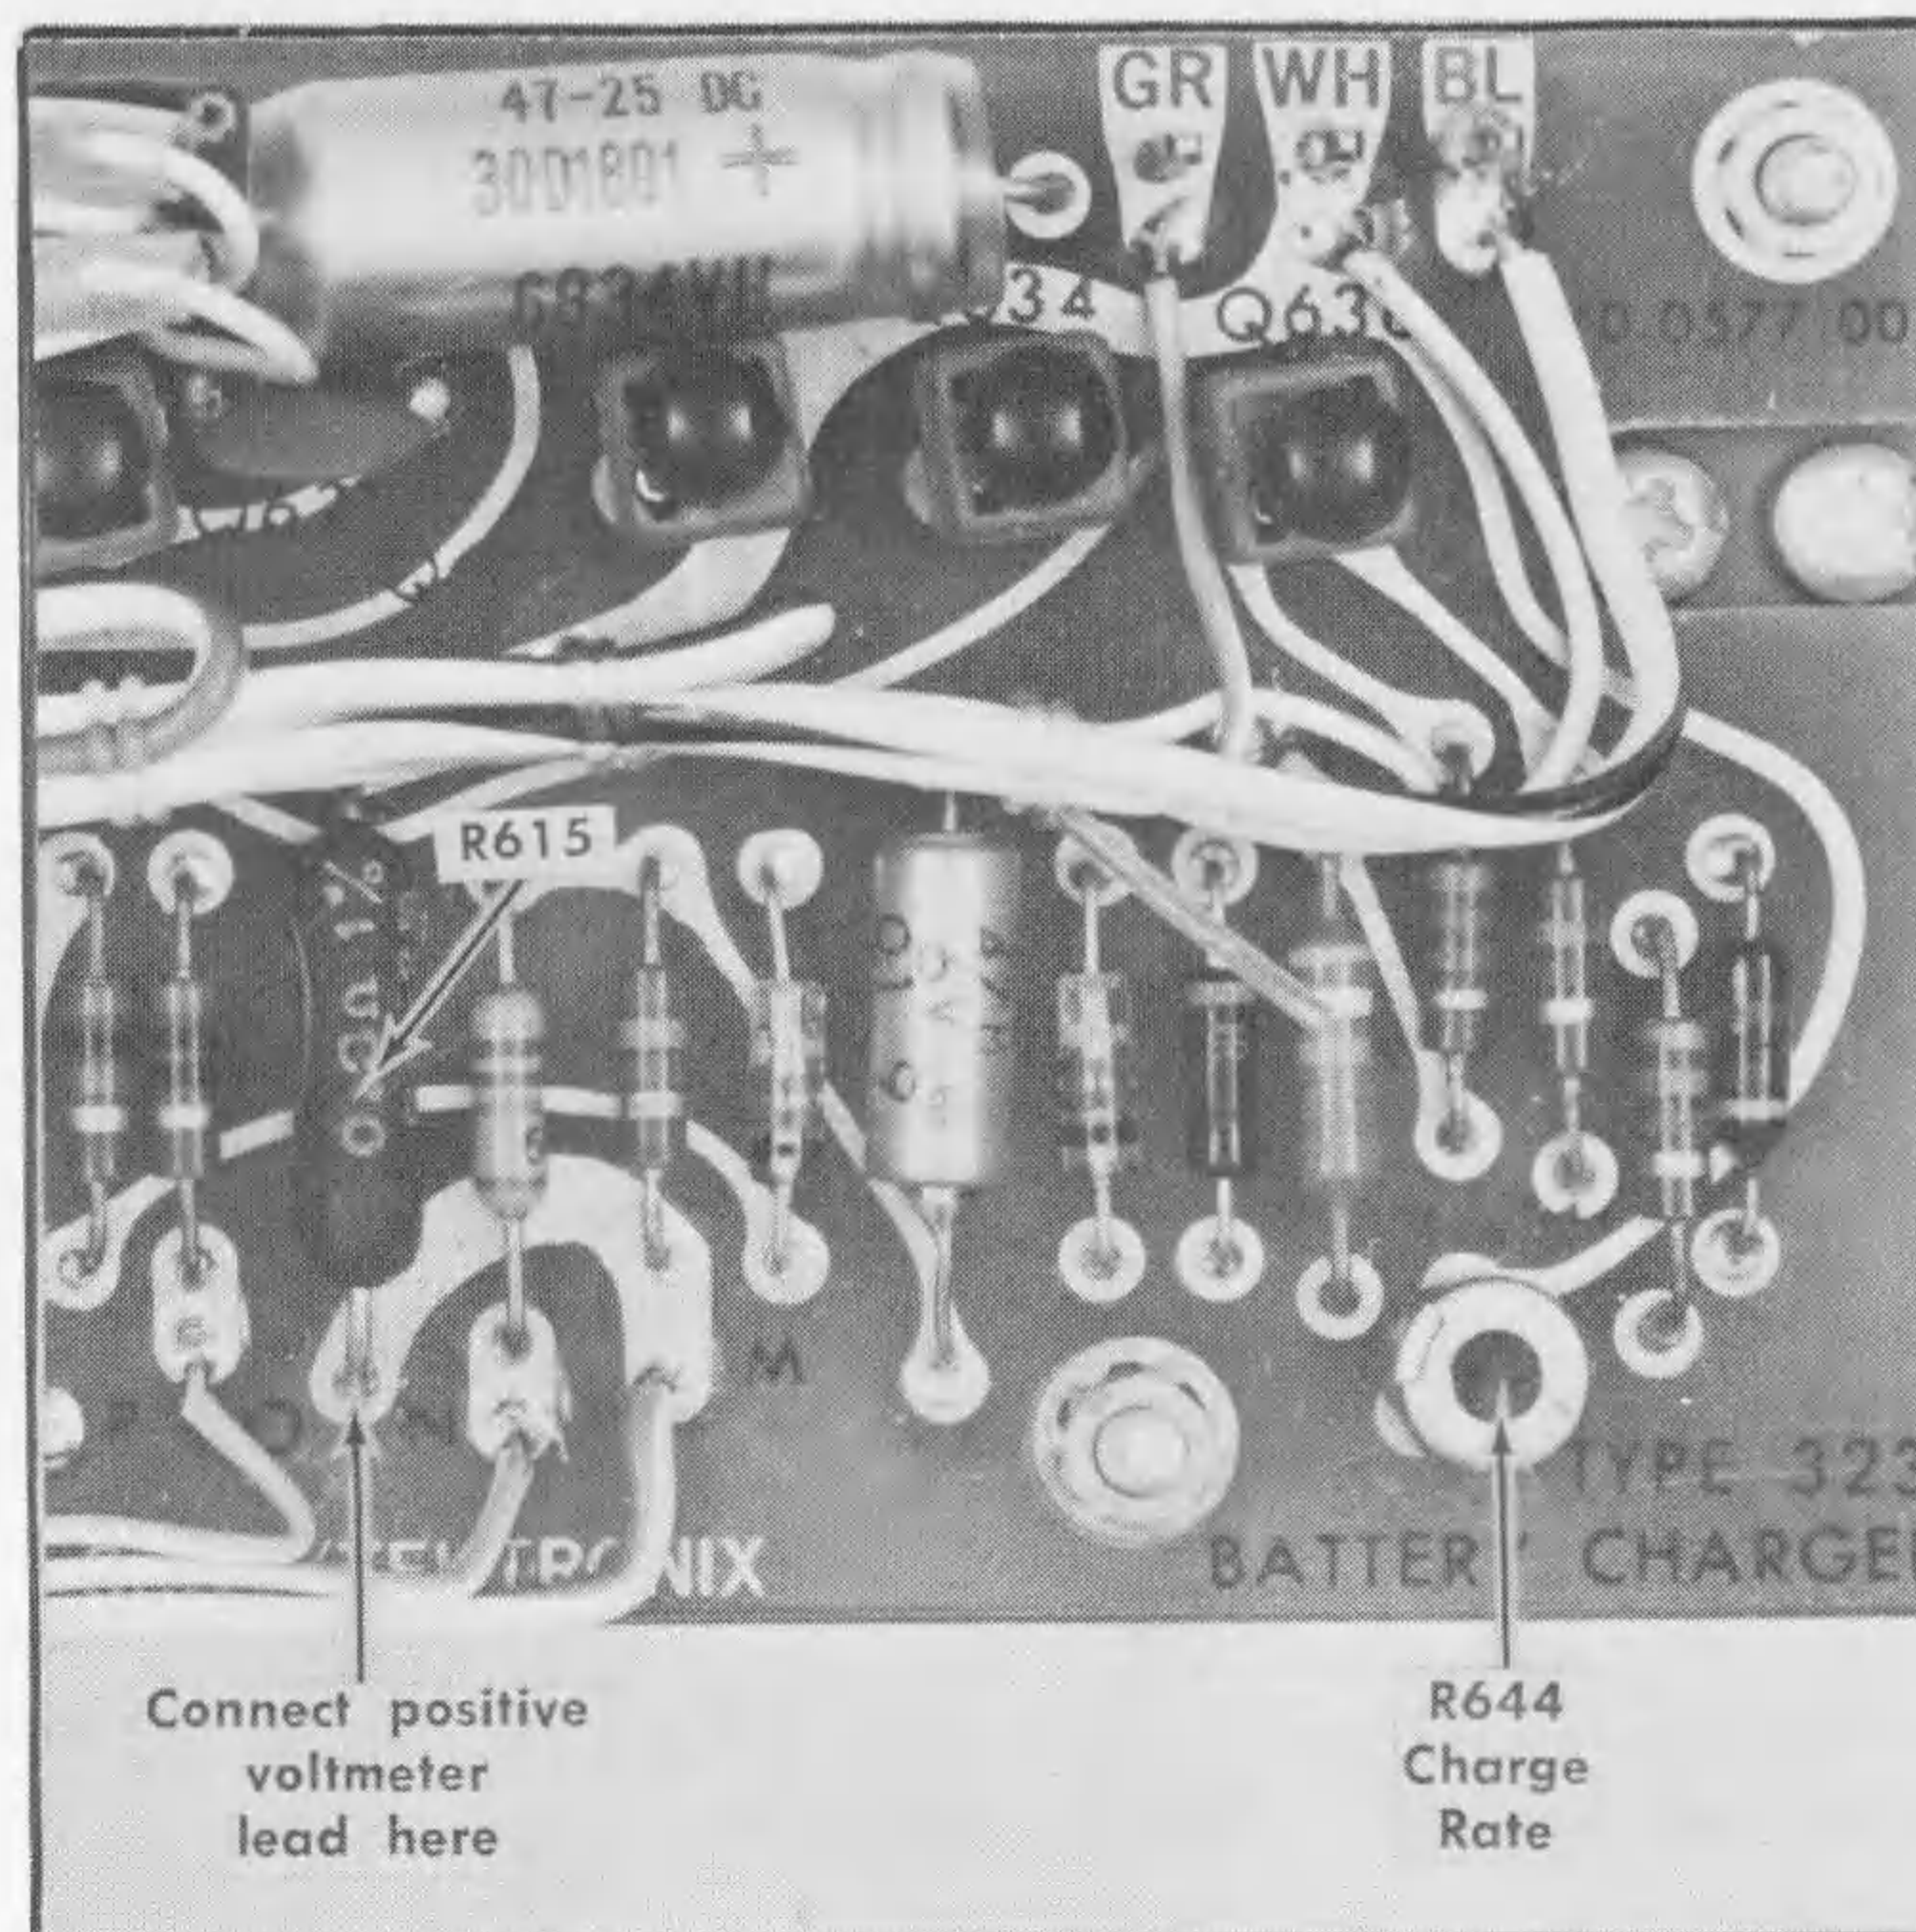

Fig. 5-2. Location of R615 and Charge Rate adjustment (Power Pack board).
c. Connect the precision DC voltmeter across R615 (see Fig. 5-2). The positive lead of the voltmeter should be connected to the bottom of R615. Be sure the negative lead of the voltmeter is isolated from ground.
e. ADJUST—Charge Rate adjustment, R644 (see Fig. 5-2), for a meter reading of 54 millivolts.